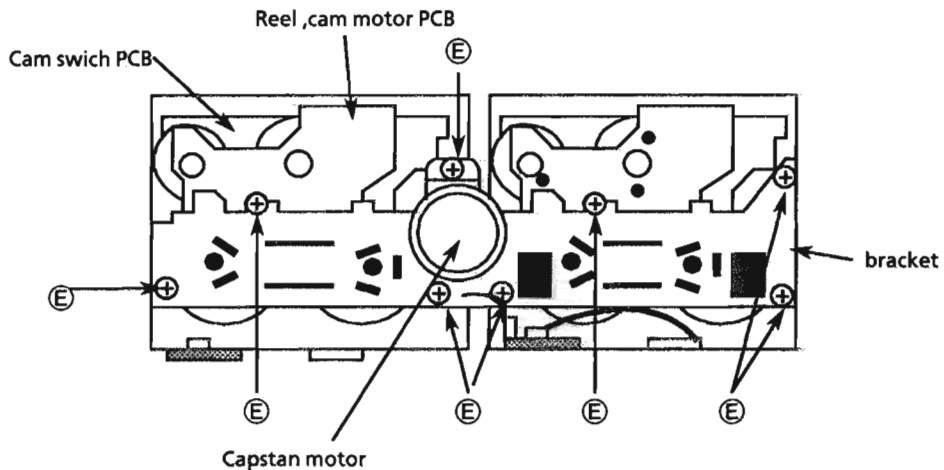

Fig 19 Cassette mechanism bottom view
1. Install the beltB of bossA ,next install the beltA as shown in fig 19 up side.
3. Hang the beltB of the motor pulley using a tweezers and the like as shown in fig 19 down side .